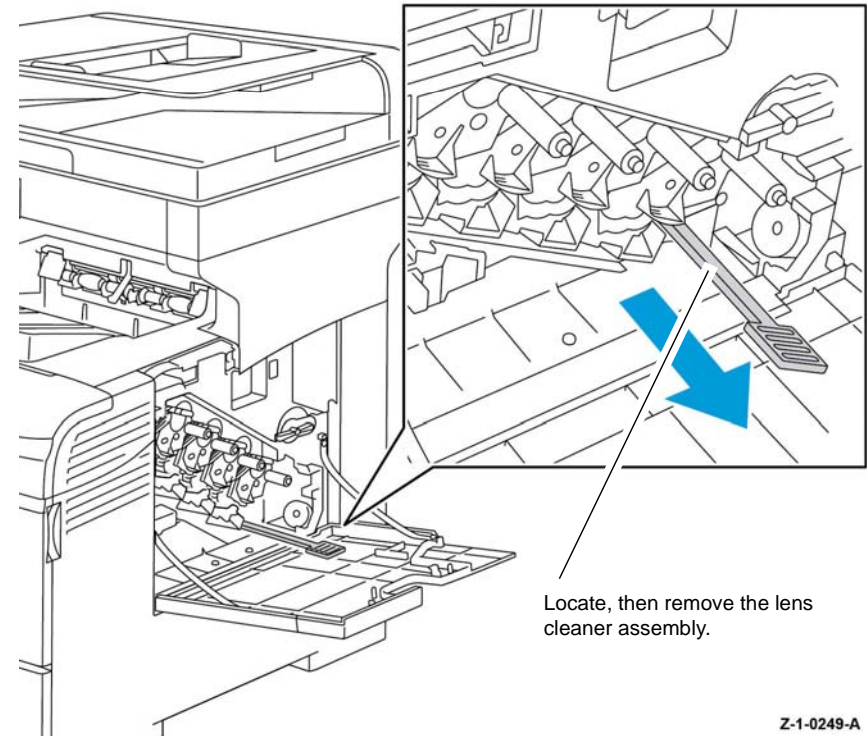

Figure 1 Len cleaner assembly
3. Remove the lens cleaner assembly from inside the printer, Figure 1.